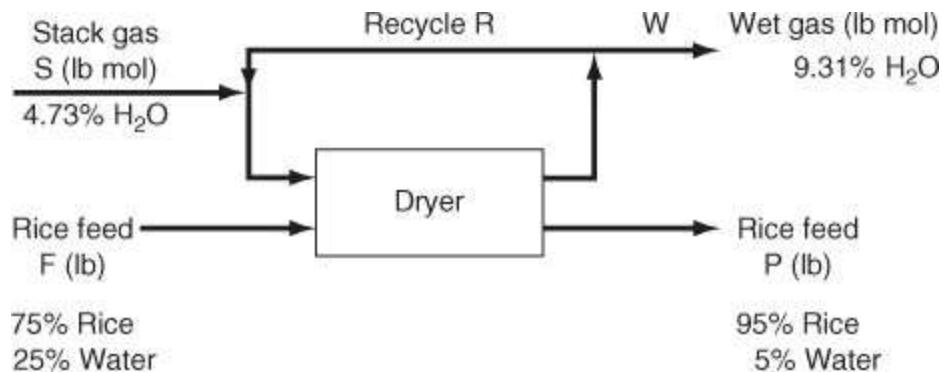

Figure P6.3.16
***6.3.16. To save energy, stack gas from a furnace is used to dry rice. The flowsheet and known data are shown in Figure P6.3.16. What is the amount of recycle gas (in pound moles) per 100 lb of P if the concentration of water in the gas stream entering the dryer is 5.20%?